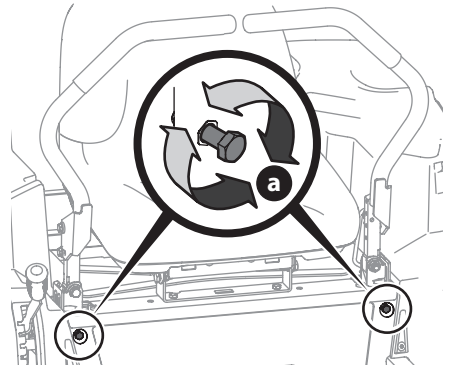

Figure 40
2. Locate the lapbar drive control lever stop adjustment bolts (a) on the front of the seat frame (Figure 40).
3. To decrease the forward speed, turn the lapbar drive control lever stop adjustment bolts (a) clockwise. To increase the forward speed, turn the lapbar drive control lever stop adjustment bolts (a) counter-clockwise. Turn the lapbar drive control lever stop adjustment bolts (a) in the necessary direction 1/4-turn at a time. After turning the lapbar drive control lever stop adjustment bolts (a), check the adjustment by driving the tractor (Figure 40).